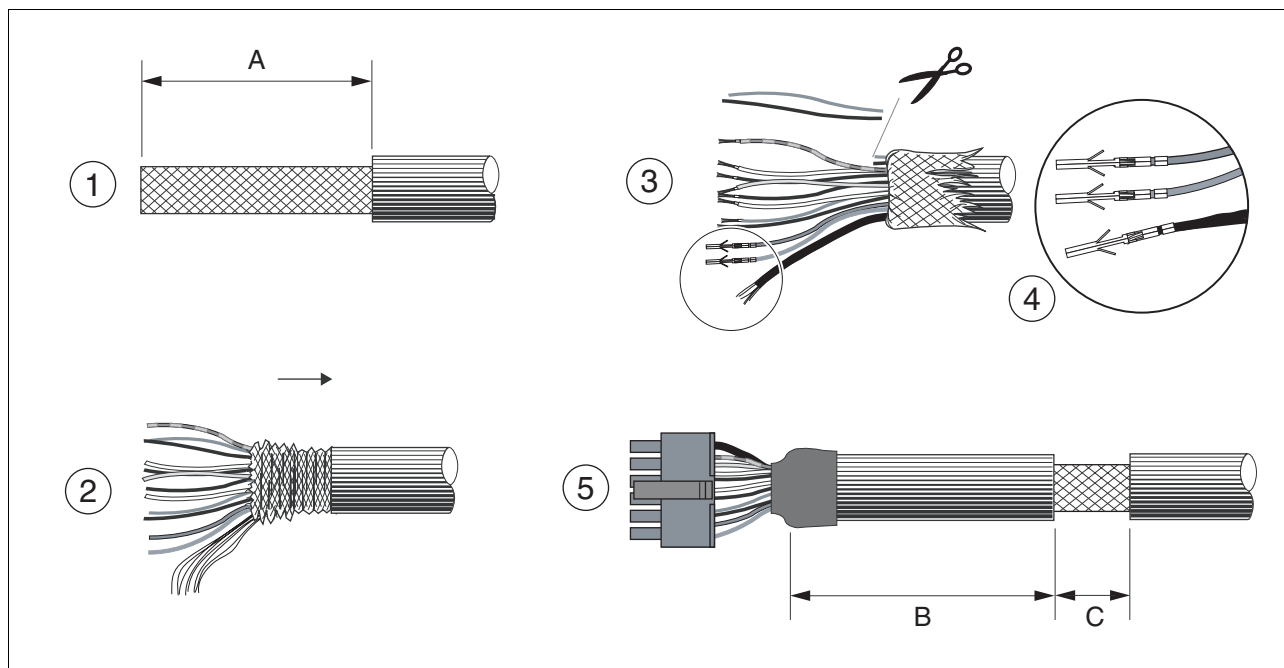

Figure 5.13 Steps (1-5) for fabrication of the sensor cable
- Use prefabricated cables to minimise the risk of a wiring error (from page 11-2). Step 5 in Figure 5.13 must be carried out even with pre-fabricated cable. The dimensions for positioning the shield on the housing are applicable when the included EMC plate is used.
- If you are not using prefabricated wiring, follow the procedure and the dimensions in Figure 5.13.